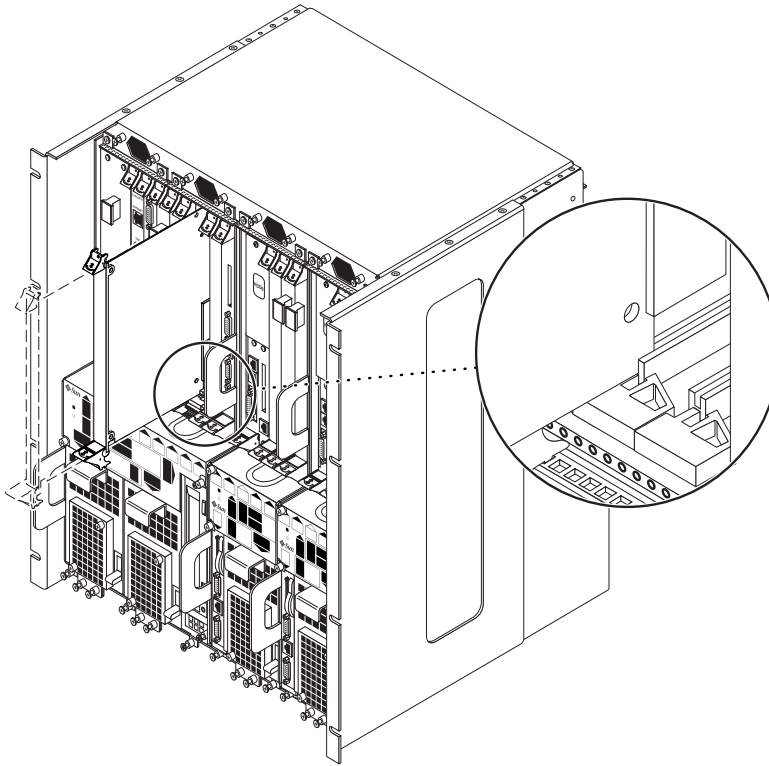

FIGURE 5-6 Aligning the Card With the Card Cage Cutouts
- 10. Go to the front of the system and, keeping the card vertical, slide the front I/O card between the two guides into the slot (FIGURE 5-6).**